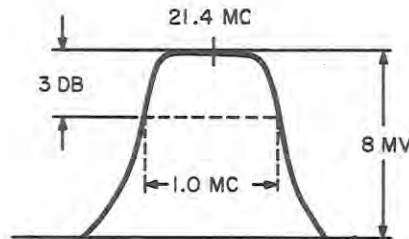

Figure 5-15. 21.4 mc Preamplifier Response
- g. Adjust L1, L2, L3, and L4 located on the top of the preamplifier subchassis for maximum symmetrical response centered around the 21.4 mc marker. The desired preamplifier response characteristics are illustrated in Figure 5-15.